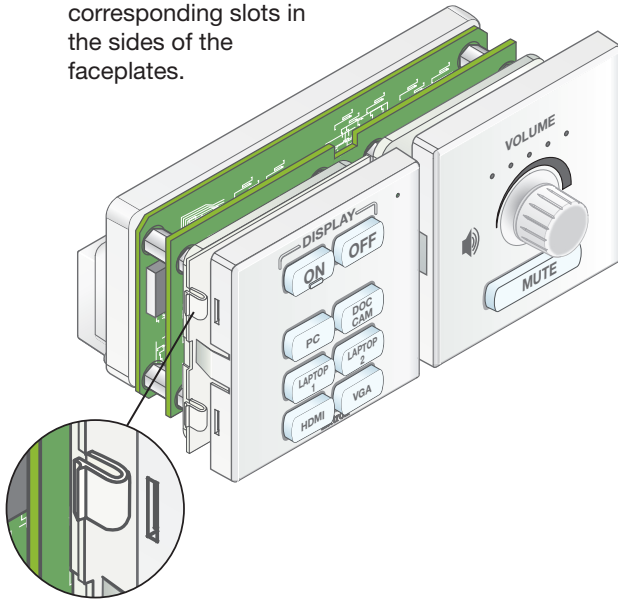

Figure 10. Aligning and Reattaching the Faceplates
- a. Align the two EU or MK mounting tabs on the sides of the faceplate with the slots on the sides of MLC Plus 84. Align the eight faceplate mounting tabs (shown in the inset in figure 10) on the MLC Plus 84 with the corresponding slots in the sides of the faceplates.